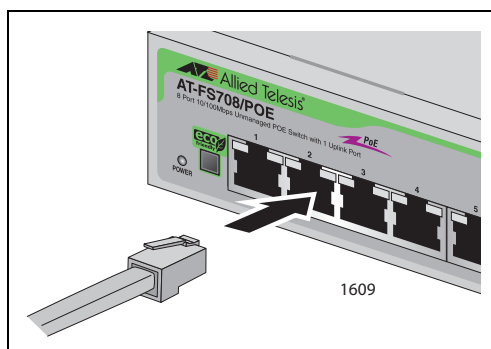

Figure 10. Connecting the Twisted Pair Data Cables
1. Connect the twisted-pair data cables to the RJ-45 ports on the switch, as shown in Figure 10.